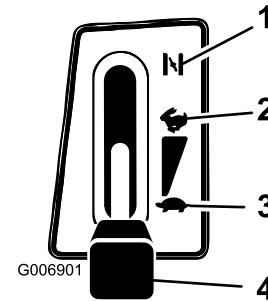

Figure 18
4. Shift the throttle lever to Choke (Figure 18).
6. After the engine starts, slowly shift the throttle lever to Fast (Figure 18). If the engine stalls or hesitates, shift the throttle lever back to Choke for a few seconds and then shift the throttle lever to Fast. Repeat this step as required.
1. Shift the throttle lever to Fast (Figure 18).